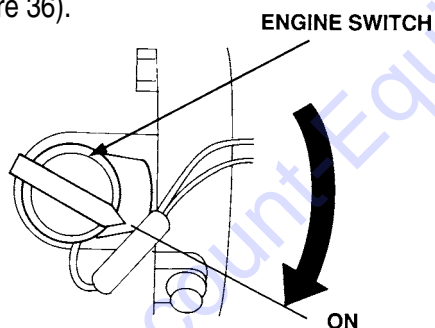

Figure 36. Engine ON/OFF Switch (ON Position)
1. Turn the engine start/stop switch to the "ON" position (Figure 36).